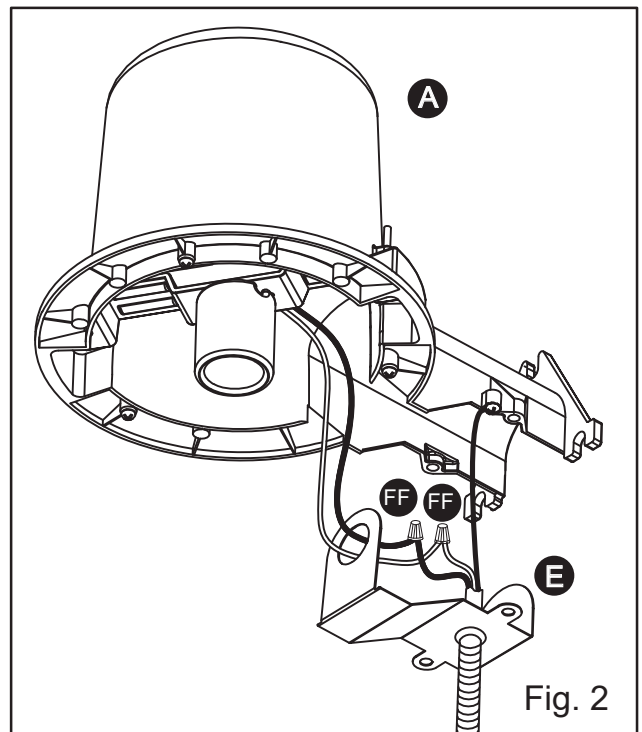

Fig. 2
Secure your outdoor cable or flexible conduit to the cover plate (E) with a fitting in accordance with the National Electrical Code (Canadian Electrical Code in Canada). Thread the black and white fixture wires through the hole in (E) as shown (see Fig 2). Connect the fixture wires to the service wires using the wire nuts (FF) provided (black to black and white to white). This fixture must be grounded. Connect the service ground wire under the head of the green ground screw and secure to the fixture.